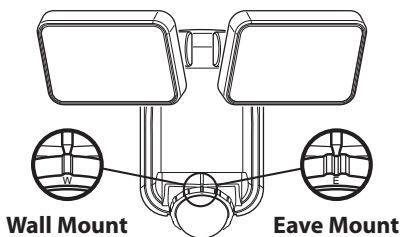

Figure 1
- For wall mounting, turn the ring around the sensor clockwise until the “W” and the single indicator is aligned with the mark on the front of the sensor (see Figure 1).
- For eave mounting, turn the ring around the sensor counterclockwise until the “E” and the double indicator is aligned with the mark on the front of the sensor. (see Figure 1).